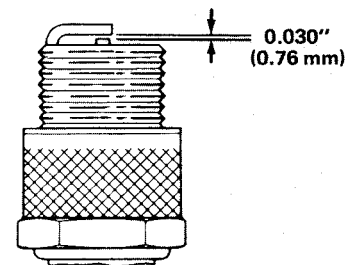

Figure 37
3. Set air gap between electrodes of new spark plug at 0.030 of an inch (0.76 mm) (Fig. 37). Next, install spark plug in cylinder head. Tighten plug to 15 ft-lb (20.4 N·m). If torque wrench is not used, tighten plug firmly.